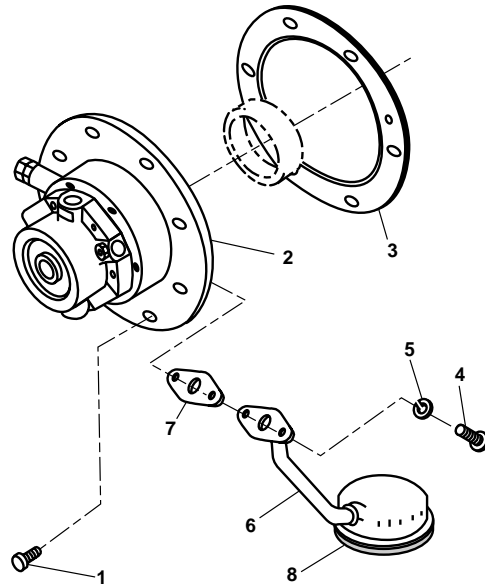

Figure 1. Oil Pump/Oil Pickup Tube Replacement
3. Remove the eight bolts (figure 1, item 1) that secure the bearing carrier assembly (figure 1, item 2) to the compressor. Remove the bearing carrier assembly and gasket (figure 1, item 3). Discard the gasket.
4. Remove the two bolts (figure 1, item 4) and two lockwashers (figure 1, item 5) that secure the oil pickup tube (figure 1, item 6) to the bearing carrier assembly (figure 1, item 2). Discard the lockwashers.
5. Remove the oil pickup tube (figure 1, item 6) and gasket (figure 1, item 7) from the bearing carrier assembly (figure 1, item 2). Discard the gasket.
2. If the oil pickup tube's (figure 1, item 6) inlet screen (figure 1, item 8) is clogged, a wire brush may be utilized to clean the screen. If cleaning is unsuccessful, replace the oil pump pickup tube.
1. Install the oil pickup tube (figure 1, item 6) and new gasket (figure 1, item 7) on the bearing carrier assembly (figure 1, item 2) and secure it with the two bolts (figure 1, item 4) and two new lockwashers (figure 1, item 5).
2. Position the bearing carrier assembly (figure 1, item 2) and new gasket (figure 1, item 3) onto the compressor and secure it with the eight bolts (figure 1, item 1).